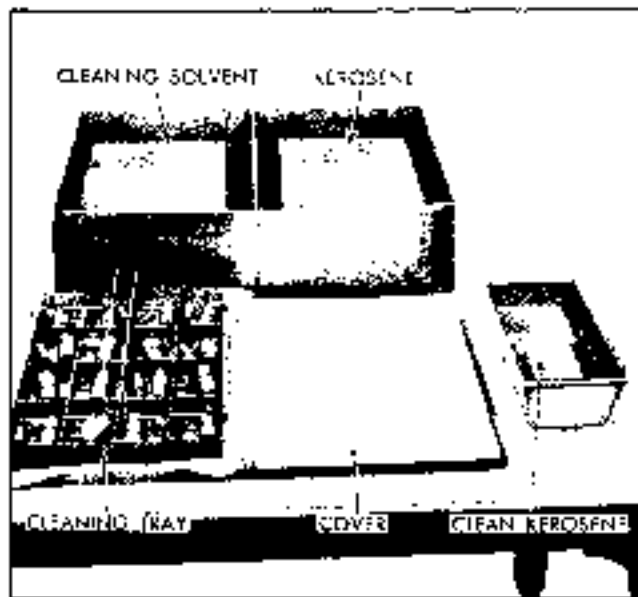

Fig. 6-81 Lifter Wash Tank and Tray
Wash tank and tray J 3821 (Fig. 6-81) is recommended for cleaning valve lifters. This tank should be used only for valve lifters and should be kept covered when not in use. All servicing should be done in an area removed from grinders or other sources of dust and foreign material.
3. Drain oil out of lifter body and place all valve lifter parts in separate compartment of tray from wash tank J 3821 (Fig. 6-81).
5. Wipe out tank cover and place tray of parts on cover in front of tank (Fig. 6-81). A shop towel under tray and clean paper on remainder of cover will enhance cleanliness.